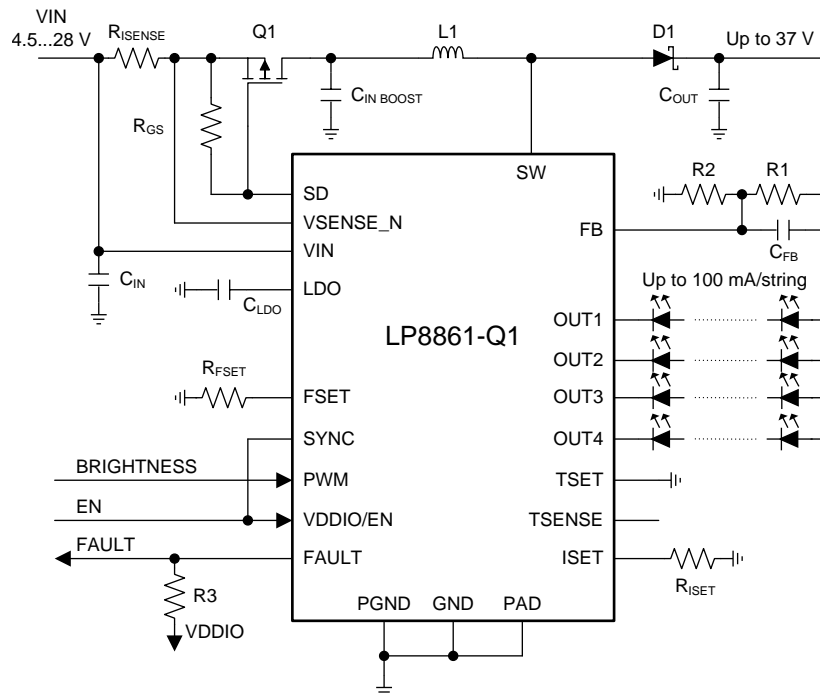

Figure 24. Typical Application for Four Strings 100 mA/String Configuration
The LP8861-Q1 has a control pin (SD) for driving the gate of an external power-line FET. Power-line FET is an optional feature; an example schematic is shown in Figure 24. Power-line FET limits inrush current by turning on gradually when the device is enabled ($V_{DDIO/EN} = \text{high}$, $V_{IN} > V_{GS}$). Inrush current is controlled by increasing sink current for the FET gradually to 230 μA.
Figure 24 shows the typical application for LP8861-Q1 which supports 4 LED strings with maximum current 100 mA and boost switching frequency of 300 kHz.